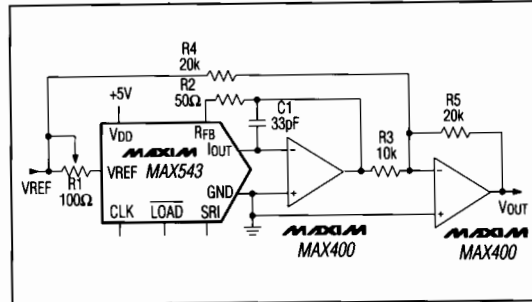

Figure 4. Bipolar Operation
Figure 4 shows the MAX543 operating in bipolar (or 4-quadrant multiplying) mode. A second amplifier and three matched resistors (R3, R4 and R5) are required. These resistors must be of the same material (preferably
**Table 2. Offset Binary-Code Table for Circuit of Figure 4**
To adjust the circuit, load the DAC with a code of 1000 0000 0000 and trim R1 for a 0V output. With R1 and R2 omitted, an alternative zero trim is needed to adjust the ratio of R3 and R4 for 0V out. Trim full scale by loading the DAC with all 0s or all 1s, and adjusting VREF's amplitude or varying R5 until the desired positive or negative output is obtained. In many applications, the gain adjustment will not be necessary, especially when using parts with a guaranteed maximum  $\pm 1\text{LSB}$  gain error. In these cases the gain can be trimmed at the reference source and resistors R1 and R2 in Figure 4 omitted. However, if the trims are desired and the DAC is operated over a wide temperature range, then low-tempco ( $<300\text{ppm}/^\circ\text{C}$ ) resistors should be used for R1 and R2.